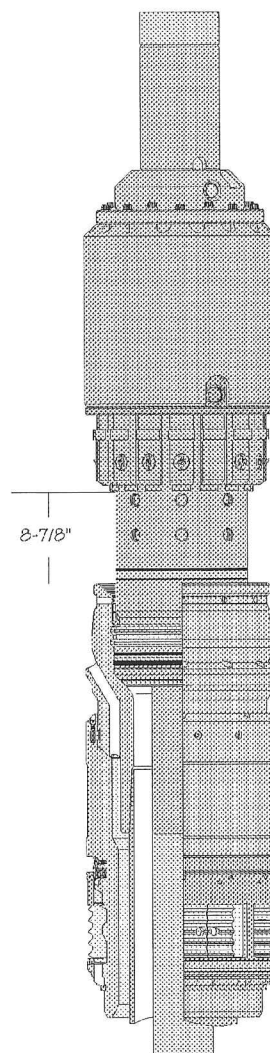

Figure 16. Stroke measurement with Running Tool properly set in the Casing Hanger
7. Set the Running Tool fully down in the Casing Hanger and measure the distance from the top of the Hanger to the bottom of the lower outer body of the Tool. The measurement should be 8-7/8". Refer to **Figure 16**.